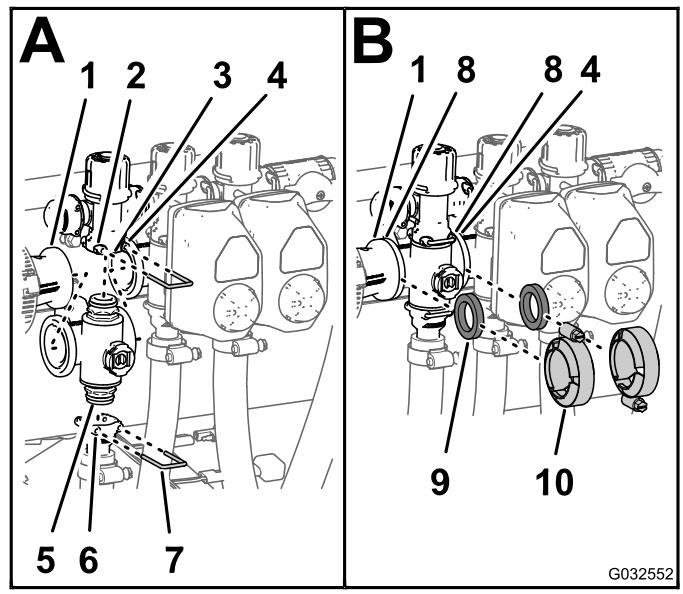

Figure 110
1. Insert the upper end-cap fitting of the manifold valve into the bypass fitting (A of Figure 110).
2. Secure the end-cap fitting to the bypass fitting by inserting a retainer into the socket of the bypass fitting (A of Figure 110).
3. Assemble the outlet fitting onto the lower end-cap fitting of the manifold valve (A of Figure 110).
- Secure the end-cap fitting to the outlet fitting by inserting a retainer into the socket of the outlet fitting (A of Figure 110).
- Align a gasket between the flanges of the reducer coupling and the section-valve manifold (B of Figure 110).
- Assemble the reducer coupling, gasket, and section-valve manifold with a clamp tightened hand tight (B of Figure 110).
- If installing the 2 left section valves, align a gasket between the flanges of the 2 adjacent section-valve manifolds (B of Figure 110).
- Assemble the 2 adjacent section-valve manifolds and gasket with a clamp tightened hand-tight (B of Figure 110).